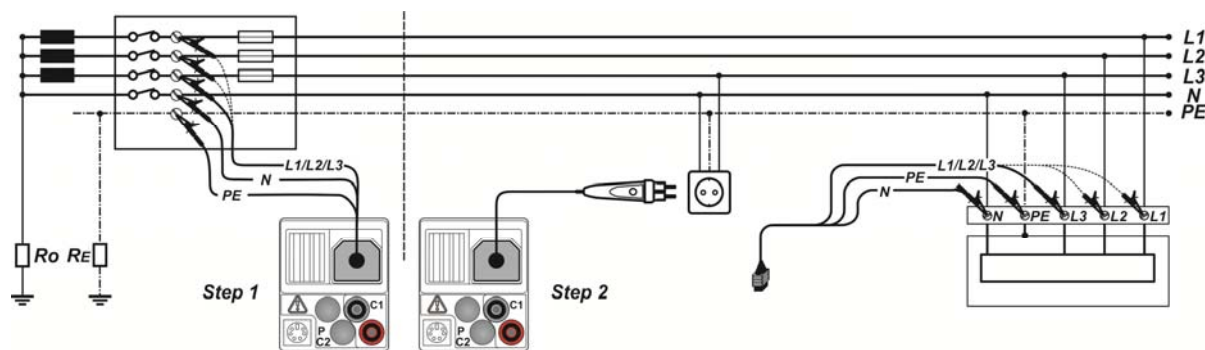

Figure 5.33: Phase-neutral or phase-phase voltage drop measurement – connection of plug commander and 3-wire test lead
- ❑ **Connect** the test leads to the origin of electrical installation (see Figure 5.33).
- ❑ **Connect** the test leads to the tested points (see Figure 5.33).